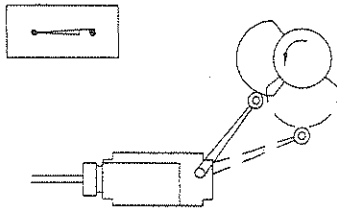
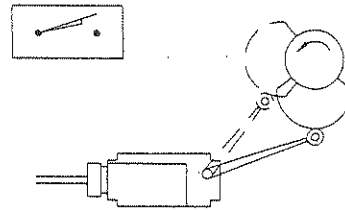

Fig. 8 Deactivated Switch
Fig. 9 Activated Switch
Limit Switches (LS) are lever-actuated switches with either four or eight posts. Standard symbols are used to represent these limit switches. Fig. 8 illustrates a limit switch in the released position. The symbol for this position shows the switch as normally closed. Fig. 9 shows the same switch as operated. The symbol is illustrated to show the open position.